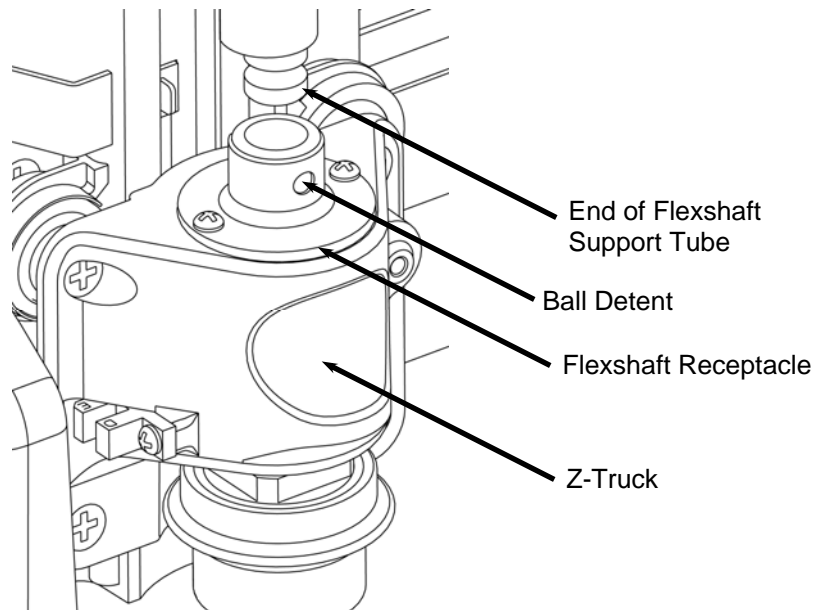

FIGURE 3: VIEW OF THE FLEXSHAFT CONNECTION TO THE Z-TRUCK
- Detach the flexshaft from the top of the Z-truck:** The flexshaft assembly is retained by a ball detent located in the flexshaft receptacle (See Figure 3). Firmly grasp the flexshaft support tube while reaching under the clear front cover with your other hand to grab the Z-truck. Pull up firmly on the flexshaft support tube and twist slightly while bracing the Z-truck. **DO NOT PULL ON THE SHEATH.** The flexshaft will pop out of the detent. Wrap the end of the flexshaft in tape so that the core will not fall out and lay the detached flexshaft end to the side.